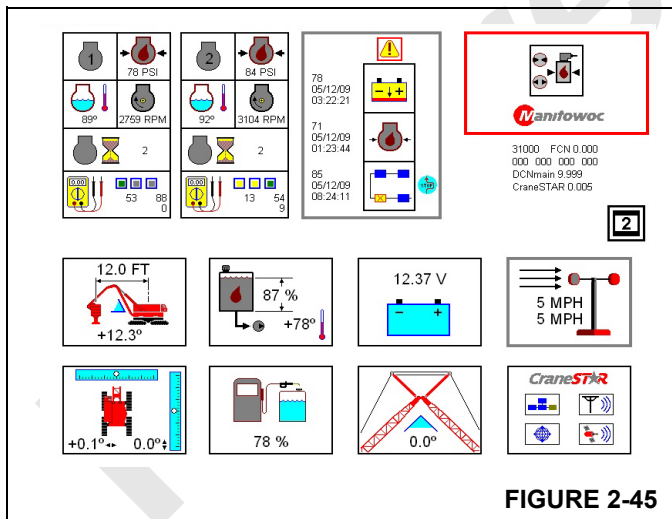

FIGURE 2-45
See Figure 2-45 for the following procedure.
3. Press  or  until the Pressure Test and Calibration Screen icon appears in the screen selection box. (Figure 2-45).